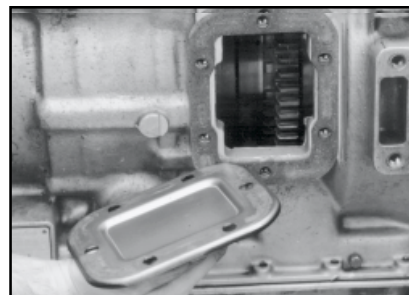

Figure 1
1. Remove the 6 bolt cover and gasket from the 6 bolt aperture. Clean the 6 bolt aperture as in step 2 on page 8 (Fig 1).